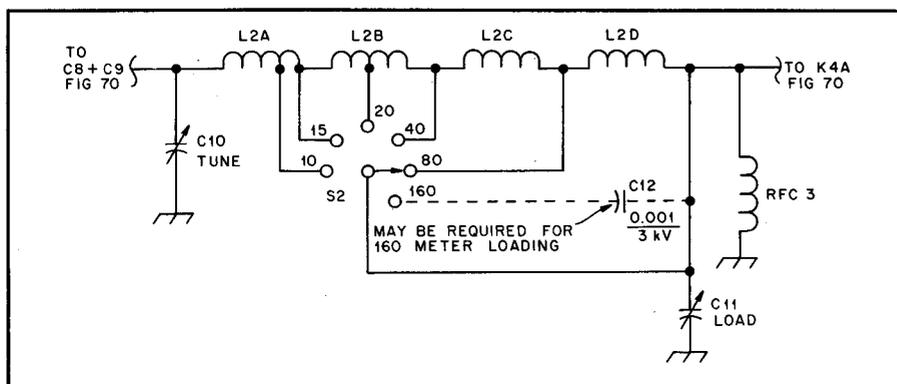

Fig 72—Details of the plate-tank circuit for the 3CX1200A7 amplifier. See Fig 70 for the rest of the circuit.
- L2—Plate-tank coil. See Fig 72 for details.
The amplifier plate tank circuit is a standard pi network with a calculated Q of 10. Details are shown in Fig 72. Use of a vacuum variable (C10) for the tuning capacitor makes it easy to get a reasonable Q at 160 and 10 meters. The 3CX1200A7 has a high internal capacitance: tube capacitance and stray circuit capacitance
are almost enough to resonate the plate circuit at 10 meters. The minimum capacitance of an air variable suitable for tuning on 160 meters is too great to allow a reasonable Q on 10 meters. So, the vacuum variable, with its low minimum capacitance, is ideal for this application. An air-variable capacitor (C11) is used for loading. As shown in Fig 72, an additional 1000-pF fixed capacitor (C12) may be switched in if more loading range is needed for 160 meters.
Four separate pieces make up the plate-tank coil. See Figs 72 and 76 for details. A length of 1/4-inch diameter soft-drawn copper tubing is the basis for the 10-meter coil. Clean the tubing well and wind 6 turns on a 1 3/4-inch diameter form. (This is one more turn than needed, but gives some extra material to work with.) Flatten one end of the tubing and drill it to clear a no. 6-32 screw. Remove the excess turn, flatten the other end and drill it to pass a no. 6-32 screw. Spread or compress the coil so that there are 2 1/2 inches between the centers of the holes drilled in the ends of